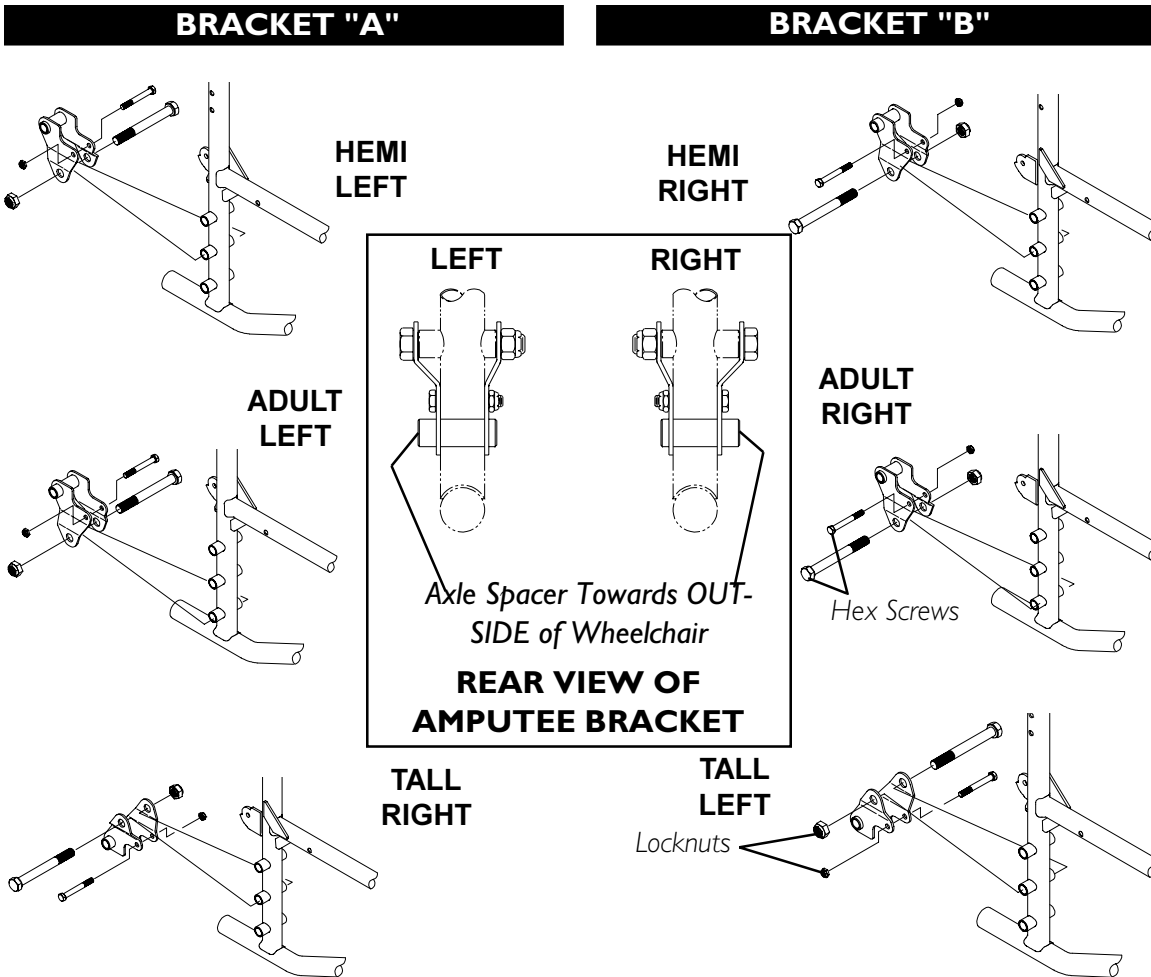

FIGURE 6 - INSTALLING THE AMPUTEE BRACKET - 9000XDT
9000XDT (FIGURE 6)
1. Refer to the following chart or FIGURE 6 to determine the mounting position of the amputee bracket: